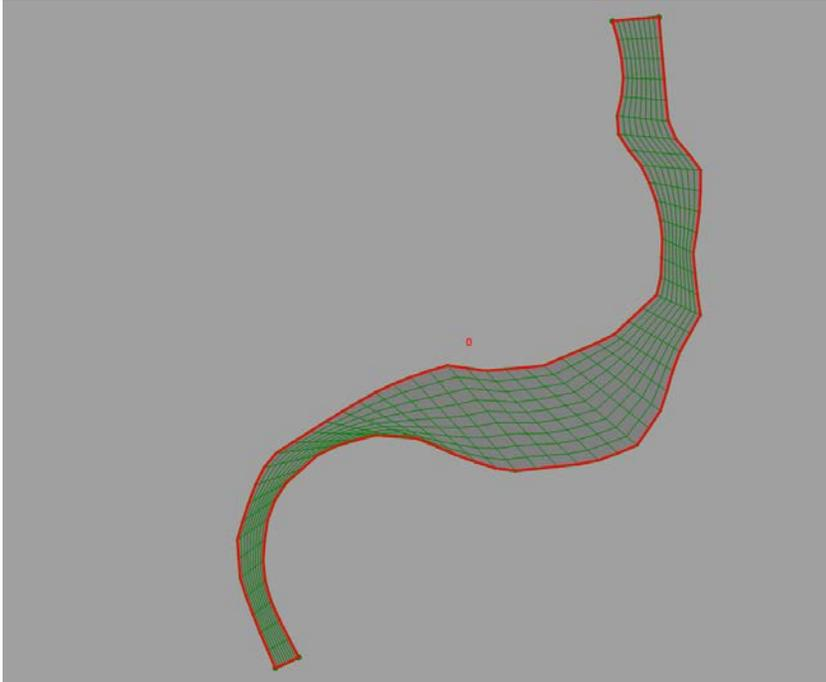

Figure 5-9. SRH-Mesh quadrilateral mesh.
Step 4: Click the select mesh button  and then click a point inside of the mesh to select the mesh. Click the quadrilateral mesh button , and you have your first quadrilateral mesh (Figure 5-9).
Step 7: Click the select outside lines button  and hold the Ctrl key to select all bank lines and end lines for the channel. Click the quadrilateral mesh button , and you have your quadrilateral mesh for your channel (Figure 5-9).